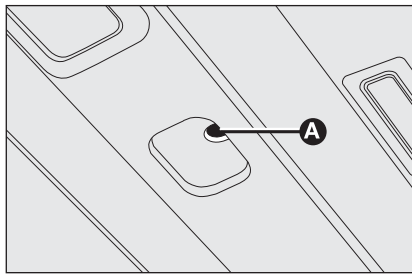

fig. 98
- introduce the socket in **A**-**fig. 98** and turn it: